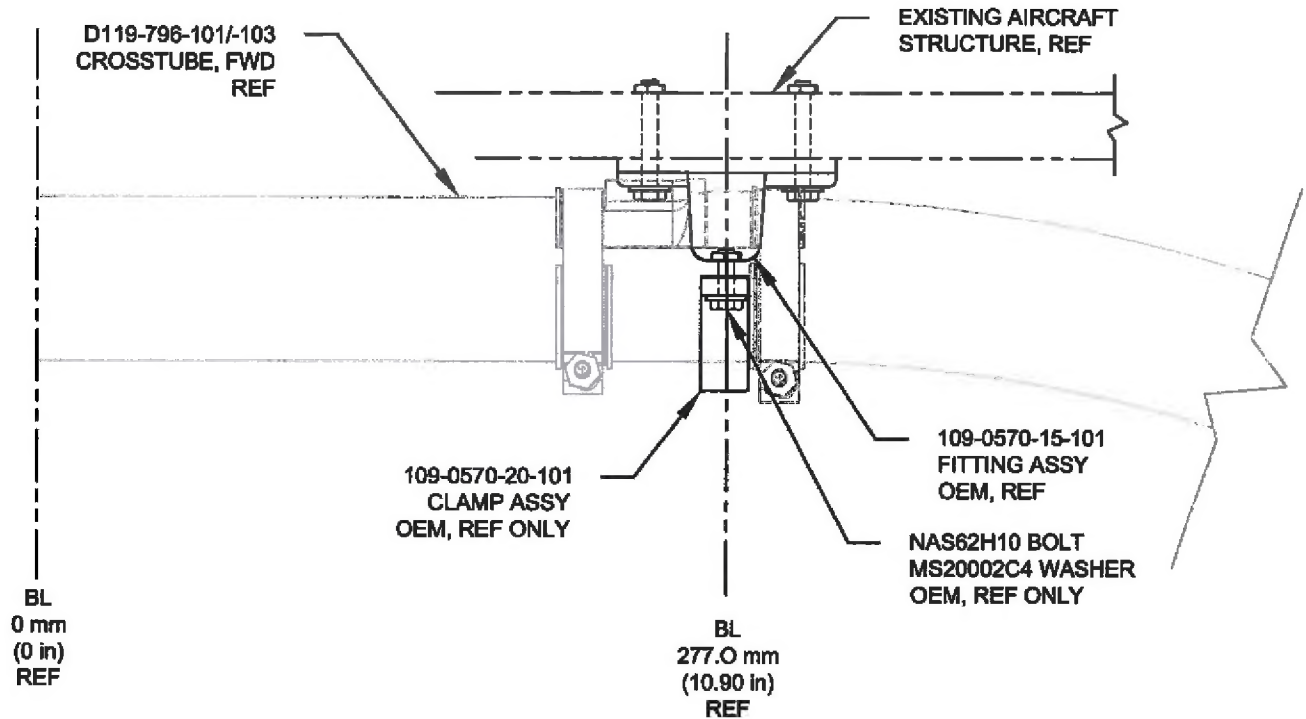

Figure 3.4 – D119-796-101/-103 Fwd Crosstube Installation
- 3.1.5 Loosely install fwd crosstube using OEM hardware in accordance with Aircraft Maintenance Manual (reference Figure 3.4).